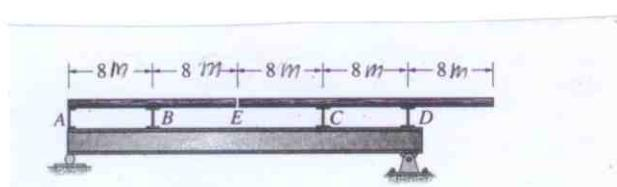

Fig. 3
**Problem 3:** Draw the influence line for the shear in panel BC of the girder. Determine the maximum negative live shear in panel BC due to uniform live load of 500 kN/m acting on the top beams. Assume the supports for these beams can exert both upward and downward forces on the beams (Fig.3).